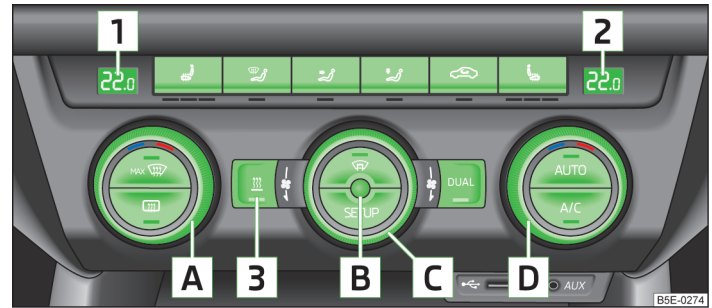

Fig. 110 Climatronic: Control elements
Functions of the individual controls » Fig. 110.
Do not stick anything onto or cover the interior temperature sensor  » Fig. 110 as this could impair the functioning of the Climatronic.
- Press the button **AUTO** » Fig. 110 on page 112.
- Turn the control dial  » Fig. 110 on page 112 to the left or right to increase or decrease the temperature.
➤ Turn the control dial  » Fig. 110 on page 112 to the left or right to increase or decrease the temperature.
- Press the symbol button » Fig. 110 on page 112.